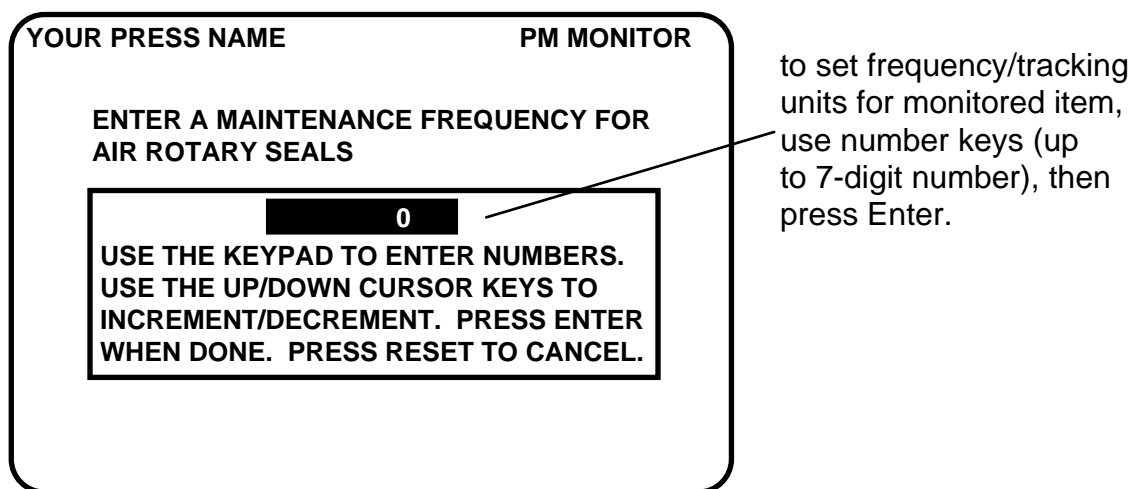

Figure C-11. Superimposed number display
- If you want to change the frequency value on a given PM item, first highlight that item, press the designated function key, and enter the PM password. The number display will be superimposed over the screen (similar to Figure C-11). Use the number keys or cursor keys to modify the tracking frequency for that PM item.